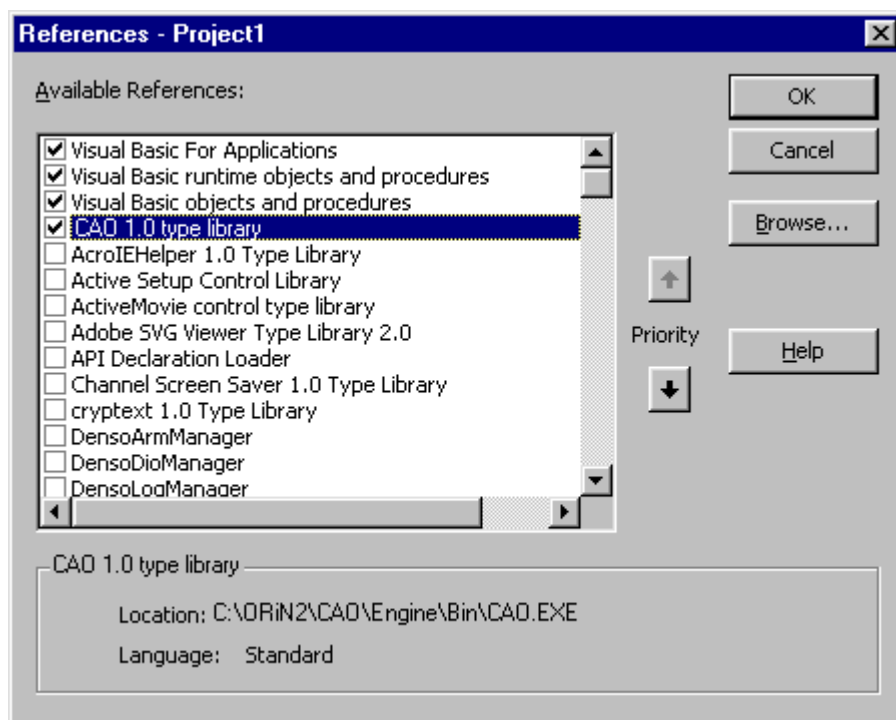

Figure2-2 Reference setting screen of VB
- (4) Select [Project]->[reference setting] in the menu bar of VB6.
- (5) When the dialog is displayed as shown in Figure2-2, add the type library "CAO 1.0 type library".